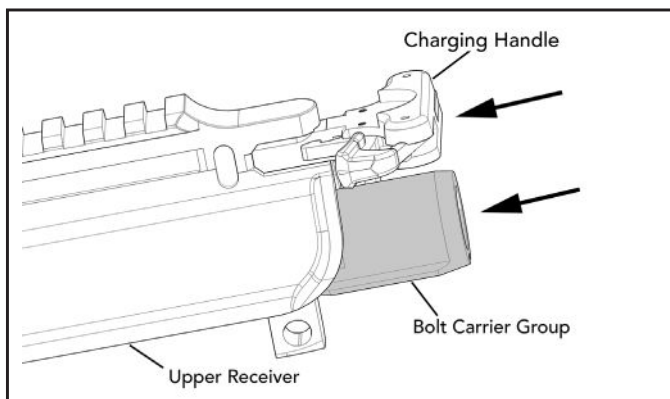

Fig. 64 – Completing installation of the bolt assembly into the upper receiver
- j. Push the charging handle and bolt group completely into the upper receiver until the locking lugs on the bolt head engage the locking on the barrel extension and the latch on the charging handle engages the oval locking surfaces on either the left or right hand sides of the upper receiver. The latch can be mounted on either the left or the right hand side of the charging handle (Fig. 64).